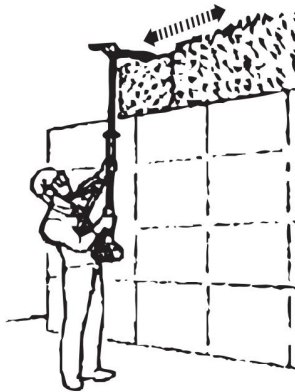

Fig. 61
7. Move the product with slow motion forward when cutting higher hedge and the cutting area out of sight (Fig. 61).